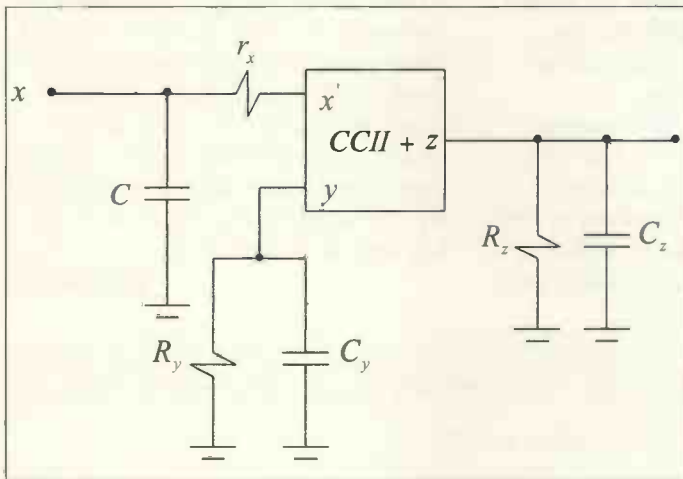
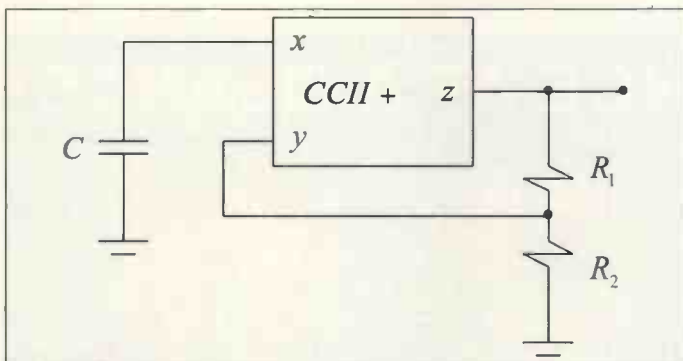

Figure 1: Simplified model for the AD844
Figure 2: CCII-based square wave generator
Figure 1 shows a simplified model for the second-generation plus-type current-conveyor (CCII+). This circuit can also be used for modelling the current-feedback operational-amplifier (CFOA) formed of a CCII+ followed by a voltage-follower.
On the other hand, the current-conveyor based Schmitt-trigger circuit shown in Figure 2 is widely used as a square wave generator. In the analysis of this circuit, it is usually assumed that the current conveyor non-idealities are represented by the parasitic capacitance C_x and the parasitic resistance R_x associated with terminal *x*. Usually, the parasitic resistance R_y and the parasitic capacitance C_y associated with terminal *y* are ignored.
No attempt has been reported for studying the performance of the circuit of Figure 2 if the effect of the parasitic at terminal *y* is taken into consideration. It is, therefore, the major intention of this paper to investigate the performance of this circuit using the model shown in Figure 1.
Using the CCII+ simplified model of Figure 1, routine analysis yields the characteristic equation of the circuit of Figure 2 that can be expressed as Equation 1:
where $C_T = C + C_x$ and C are the externally connected capacitance. Therefore, by equating the real and imaginary parts of Equation (1) to zero, i.e. using the Barkhausen criterion, the frequency and condition of oscillation of the circuit of Figure 2 can be expressed as